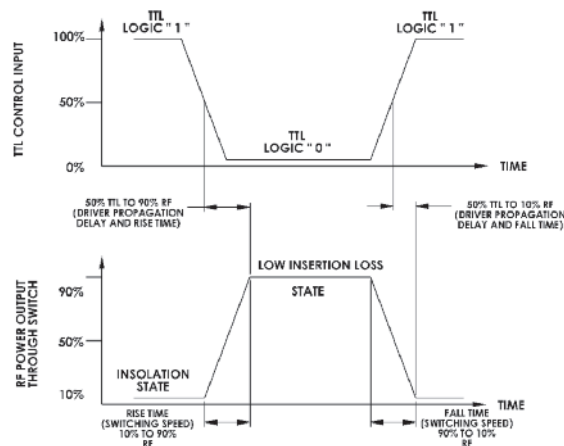

Figure 2. Switching Speed and Driver Propagation Delay Measurement.
**Switching Speed** – Please see Figure 2 below for explanation of Switching Speed.